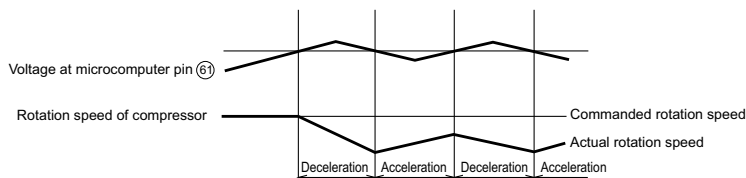

Fig. 6-3
Fig. 6-3 shows the rotation speed control. When the voltage at pin ⑥ of the microcomputer exceeds the set value, the microcomputer decreases the rotation speed of the compressor and reduces the load.